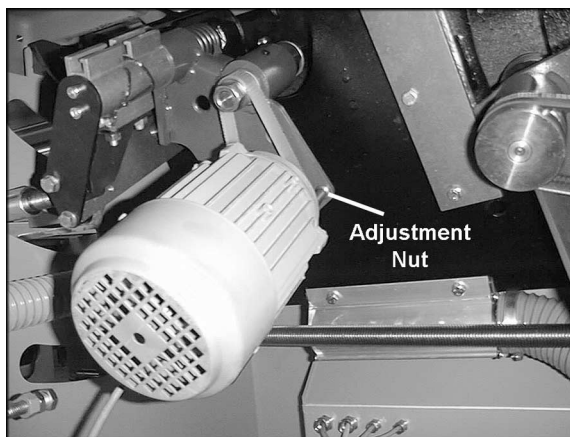

Figure 37
1. Loosen the two nuts (Figure 37) which hold the scoring motor.